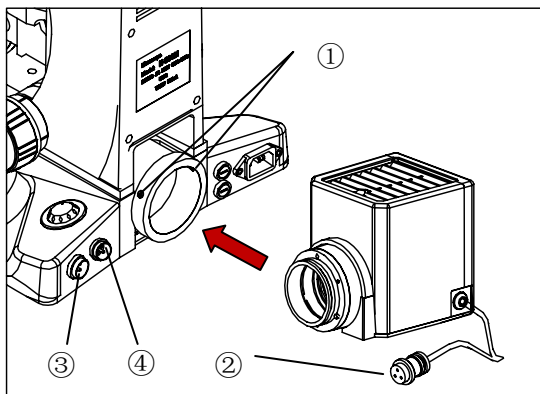

Fig.8
1. Push the lamp house into the illumination kits (Fig. 8) gently until they are against each other, turn to a proper position and then screw down the bolt① to fix it.
2. Insert the power plug② into the power jack of the microscope③/④, and screw down the bolt to fix it. For transmitted light illumination, the power jack③ is used. For reflected light illumination, the power jack④ is used.